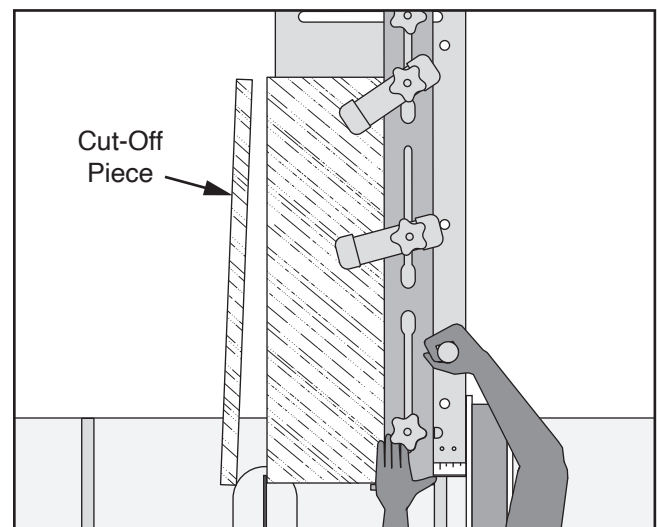

Figure 27. Completed cut.
17. Maintaining firm downward pressure on jig against table, with right hand on tapered knob and left hand (or push stick, if necessary) at rear of jig, feed workpiece all the way through blade, keeping hands and fingers clear of blade (see **Figure 27**).